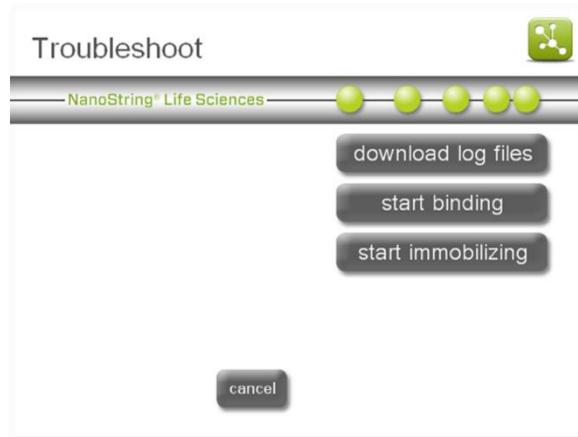
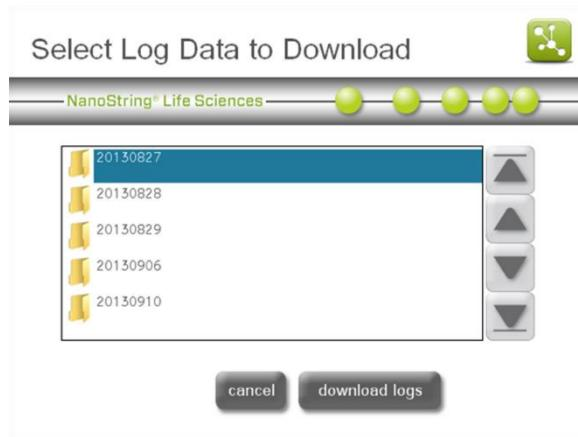

Figure 128: The Troubleshoot Menu.
Figure 129: The 'Select Log Data to Download' screen.
In the event of technical difficulties, NanoString support staff will ask the user to download and e-mail log files to them for diagnosis of the issue. To access the Troubleshoot Menu, press **troubleshoot** on the Maintenance Menu (**Figure 107**). The Troubleshoot Menu (**Figure 128**) is used to gain access to the screen where files can be selected for download. Users also have the option to run specialized procedures that may assist in recovering failed runs.
Access log files by pressing **download log files** on the Troubleshoot Menu (**Figure 128**). Log files are labeled with the date of each run. Multiple folders may be selected for download by touching them (**Figure 129**). Selected folders will be highlighted in blue.
1. To initiate the surface binding protocol recovery workflow, press **start binding** on the Troubleshoot Menu (**Figure 128**).
1. To initiate the ‘Surface Immobilization Protocol Recovery’ workflow, press **start immobilizing** on the Troubleshoot Menu (**Figure 128**).